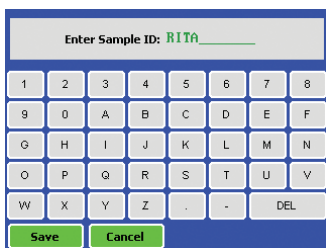

Figure 6. You may name your sample from the Sample ID screen
4. (Optional) Touch “Sample ID” to name your sample. Using the keypad, enter the sample name into the name field (Figure 6). You can enter a maximum of 10 characters. Touch “Save” to save the sample ID.